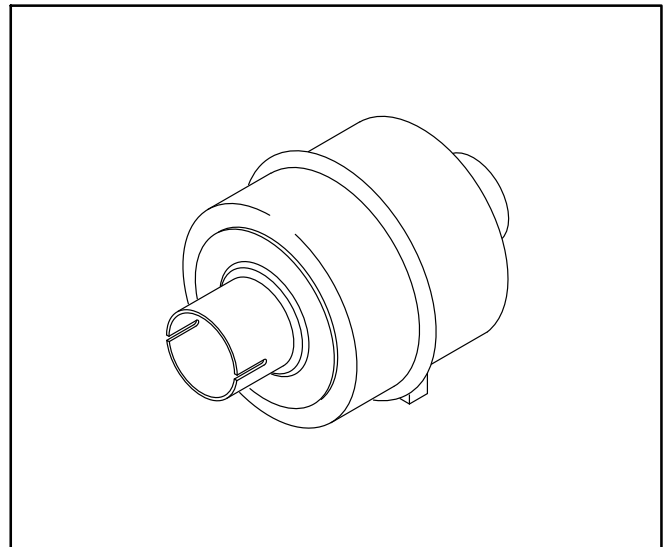

FIGURE 3-3. IN-LINE SPARK ARRESTER
4. For specs A–C, mount the in-line spark arrester (Figure 3-3) in a horizontal run of tail pipe. The location must allow access to the cleanout plug, which should point down. The tailpipe must be expanded to **1 1/2 inch OD** where it mates with the inlet of the spark arrester. The tailpipe must be expanded to **1 1/2 inch ID** where it mates with the outlet of the spark arrester.